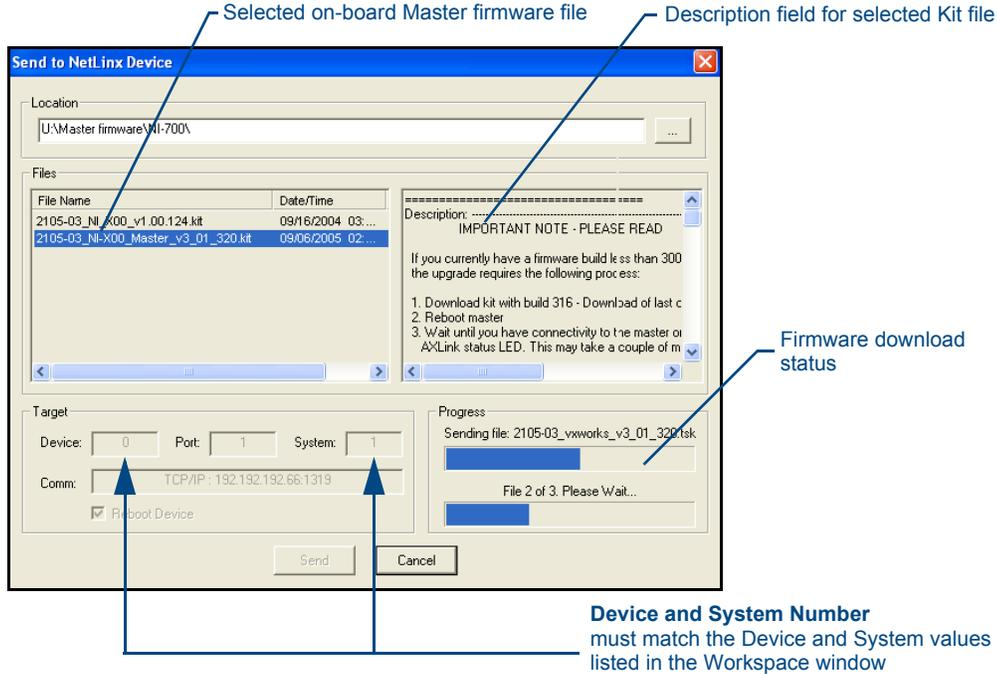

FIG. 29 Send to NetLinx Device dialog (showing on-board NI_Master firmware update via IP)
7. From within Studio, select **Tools > Firmware Transfers > Send to NetLinx Device** from the Main menu to open the Send to NetLinx Device dialog (FIG. 29). Verify the target's System number matches the
8. Select the NI Master’s Kit file from the **Files** section (FIG. 29).
11. Click **Send** to begin the transfer. The file transfer progress is indicated on the bottom right of the dialog box (FIG. 29).